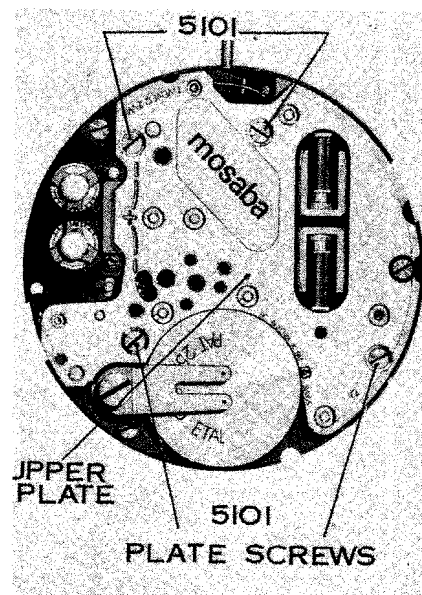

FIGURE 1
Figure 1 shows the movement side of this calibre. In the place occupied by the name "mosaba" (movements sans balance), the name of the distributor will appear, such as Omega, Longines, Eterna, International, etc.
3. When cleaning the click wheel, you must mount it on the upper plate (Figure 1).
3. Remove the four upper plate screws (5101), and remove the upper plate (101) as shown in Figure 1.
After removing the back, the battery clamp's screw and the battery clamp, remove the four upper plate screws (5101) and the upper plate (101), as shown in Figure 1. Turn the watch dial side up to allow the loose upper plate-module to drop out of its own accord.